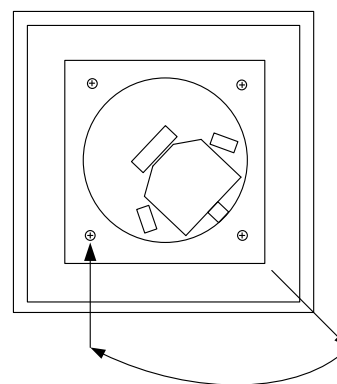

Fig. 2
6. Locate the screw on top of the housing clockwise from the corner with the thermostat/actuators (see Fig. 2).